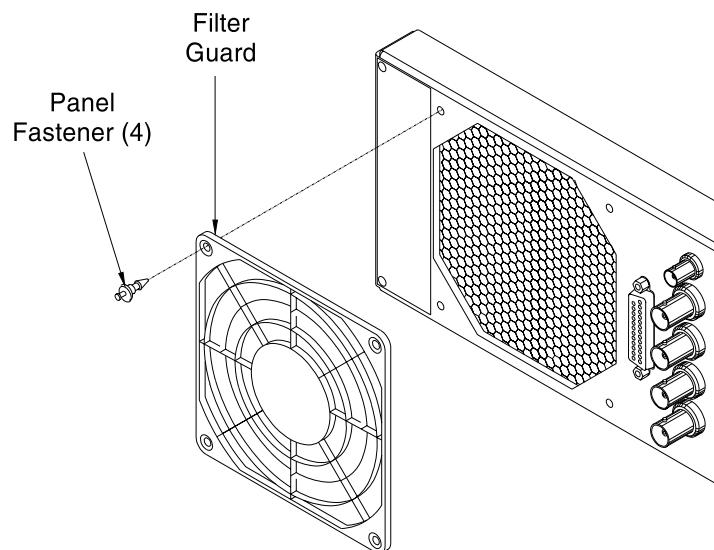

Figure 6-1. Removing/Replacing the Fan Filter
- Step 1** Remove the filter guard from the rear panel by pulling out on the four panel fasteners holding them in place (Figure 6-1).